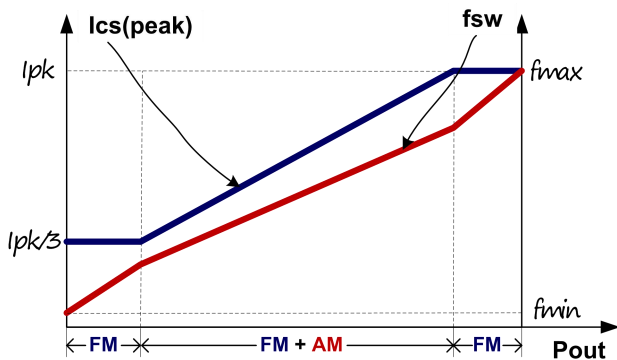

Fig.4
To meet the tight requirement of averaged system efficiency and no load power consumption, a hybrid of frequency modulation (FM) and amplitude modulation (AM) is adopted in DP3773D which is shown in the Fig 4.